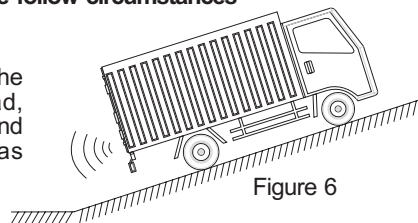

Figure 6
① When backing up the vehicle on bumpy road, gravel road or on a ground covered with grass, as shown in Figure 6